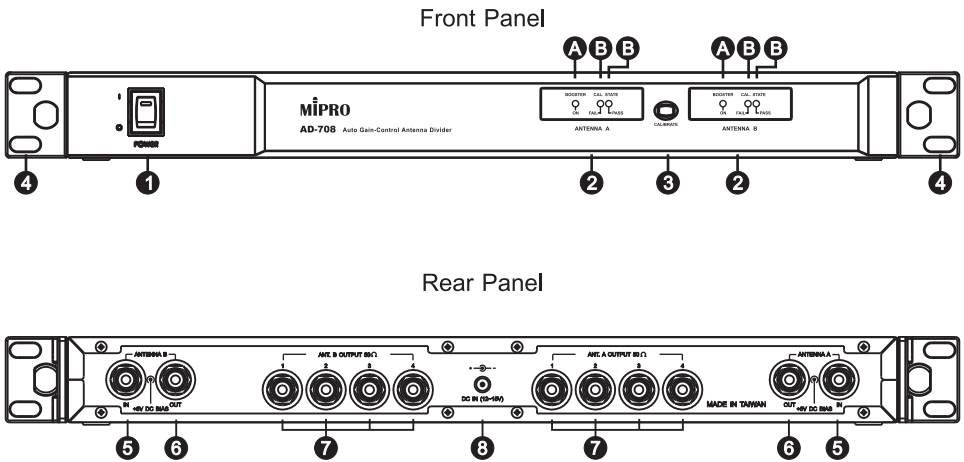

Fig. 1
(1) This device may not cause interference.
(2) This device must accept any interference, including interference that may cause undesired operation of the device. This equipment complies with FCC RF radiation exposure limits set forth for an uncontrolled environment.
I. Part Names, Fig. 1